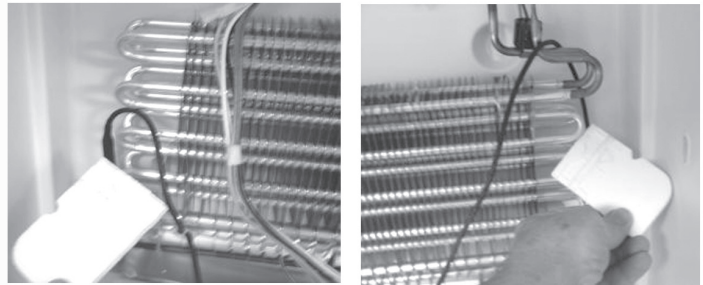

Figure 1
2. Remove the foam blocks located on the left and right side of the evaporator, see figure 1.